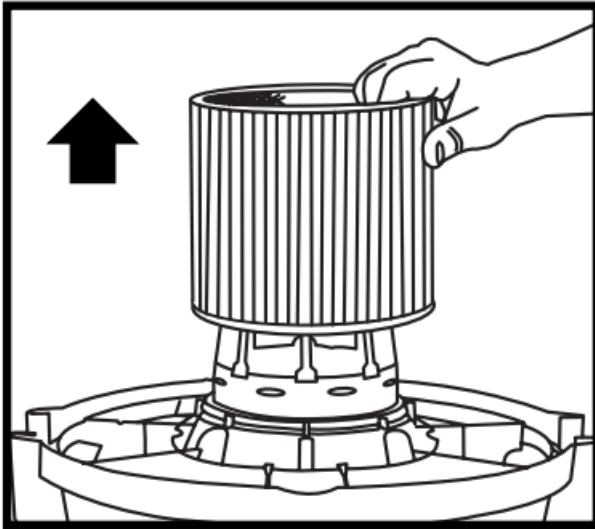

FIGURE 21
26. Slide the cartridge filter off the lid cage. **FIGURE 21**